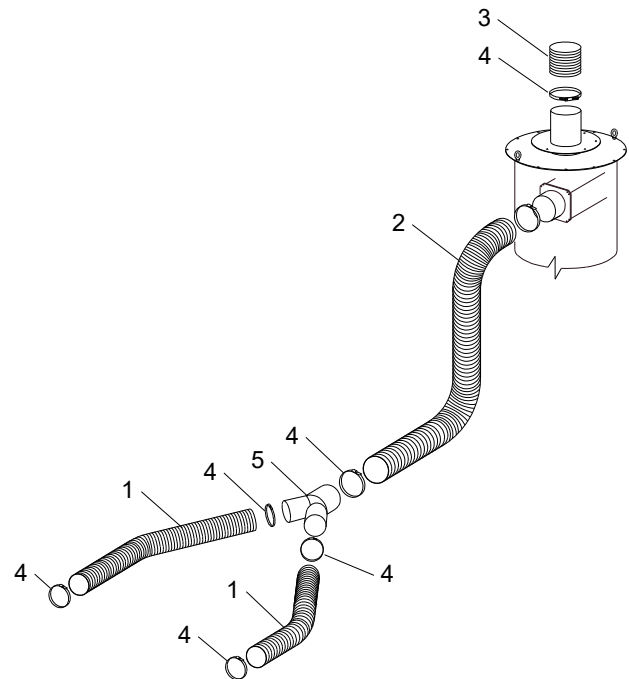

Figure 42
9.10 Flex Hose and Wye Adaptor, Figure 42